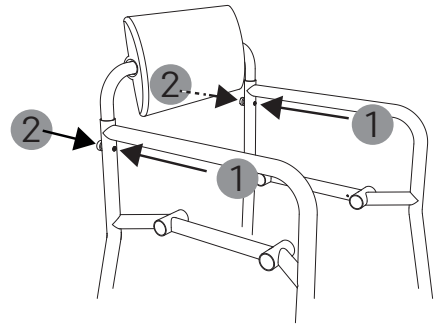

Fig. 5
4. Align the side elements so that they are parallel with each other (Fig. 5). Working from the front, insert a bolt (M6 x 50 mm) into each side element on the left and right (1, Fig. 5). Then secure them firmly with the knurled nuts on the rear of the product (2, Fig. 5).